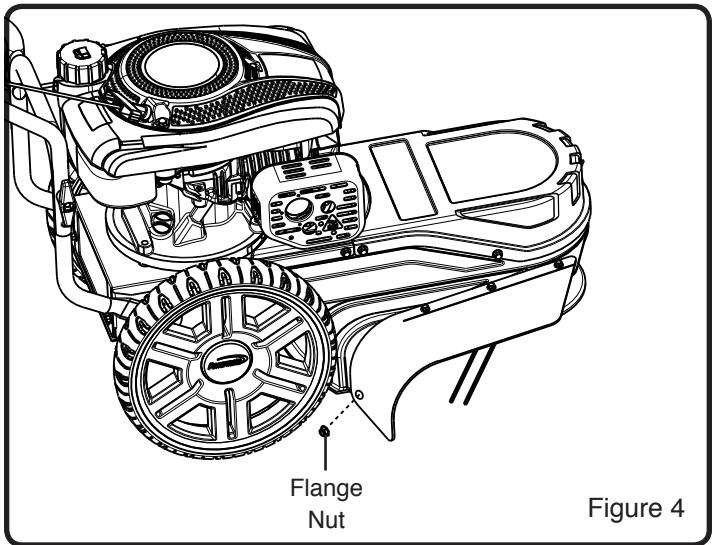

Figure 4
**NOTE:** Refer to Figure 4 when following the steps below